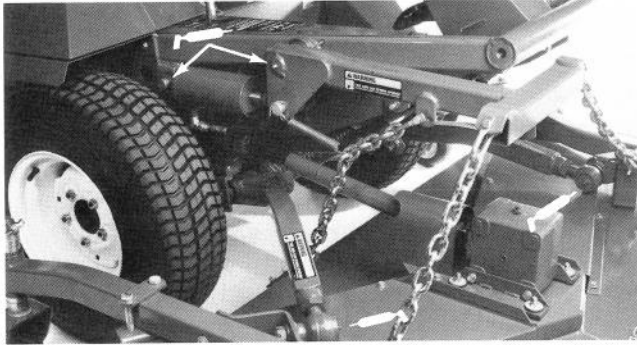
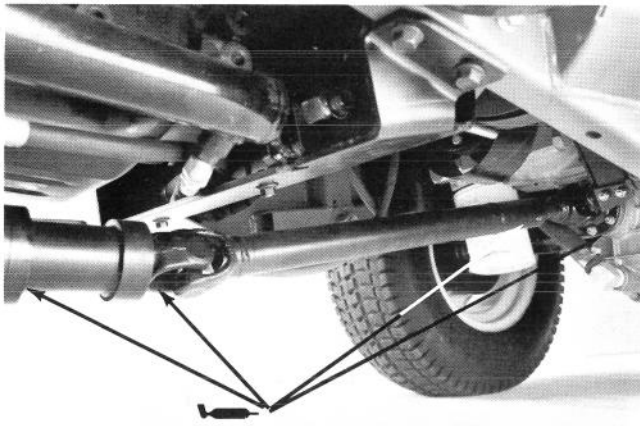
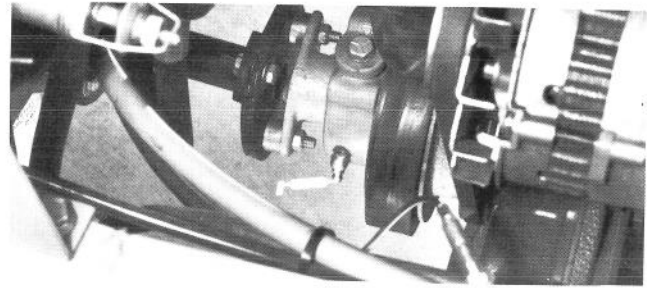

Figure 35
Figure 40
Figure 41
1. The traction unit bearings and bushings that must be lubricated are: PTO shaft and yokes (Fig. 35); lift arm pivots (Fig. 35); right and left push arm ball joints (Fig. 35); push arm pivot bushings (Fig. 36); PTO pivot housing blocks (Fig. 37); brake pivot bushings (Fig. 38); axle Tie Rod (2) (Fig. 39); axle pivot pin (Fig. 39); cylinder rod ends (2) (Fig. 39) drive shaft (3) (Fig. 40); clutch housing (Fig. 40) and engine output shaft bearing (Fig. 41). Also apply grease to both brake cables at the drive wheel and brake pedal ends.